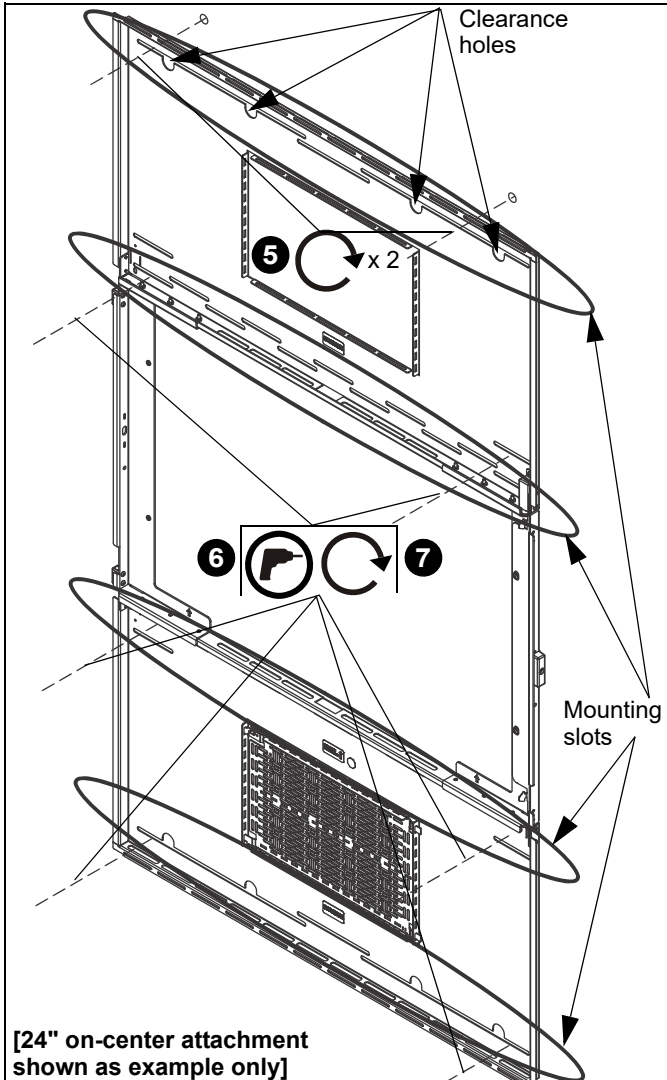
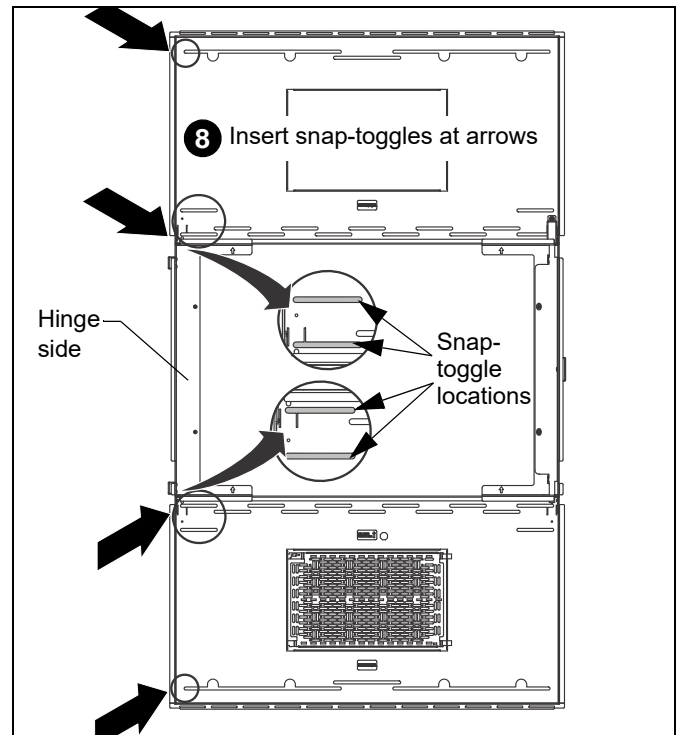

Figure 4
Figure 5
**IMPORTANT ! :** Attaching the wall bracket requires a minimum of 8 wall fasteners. For installation in a wood or steel stud applications, the snap toggles are required near the edge of the wall bracket hinge side if the hinge side is not fastened to a stud. (See Figure 4) and (See Figure 5)
4. Hang wall bracket, aligning upper mounting slot clearance holes over fasteners and adjust side-to-side for proper location. (See Figure 4)
6. Drill six remaining pilot holes (see Table 1 for size) at attachment locations and follow fastener information (appropriate for wall type) located in Table 1. (See Figure 4)
8. **For Wood and Steel Stud walls:** Insert four snap toggles and related fasteners into hinge side of wall bracket. (See Figure 5)